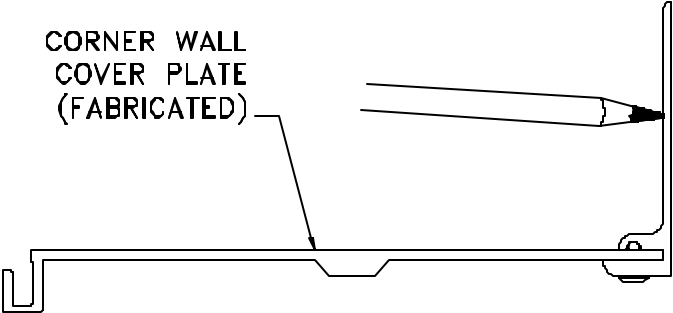

Figure 5
- STEP 9.** If the anchor holes have not been pre-drilled in the corner wall cover plate at the factory, mark the locations for the anchor holes on the corner wall plate (see Figure 5). Standard anchor spacing is 20" O.C. with an anchor at a nominal 3" from each end of the corner wall cover plate.